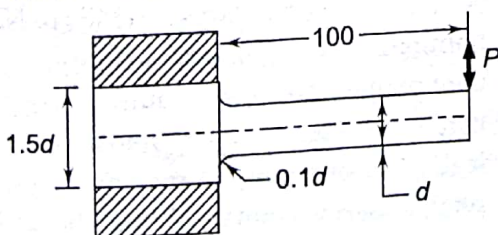

Fig. 5.62
- 5.7 **M** A cantilever beam made of steel Fe 540 ($S_{ut} = 540 \text{ N/mm}^2$ and $S_{yt} = 320 \text{ N/mm}^2$) and subjected to a completely reversed load (P) of 5 kN is shown in Fig. 5.62. The beam is machined and the reliability is 50%. The factor of safety is 2 and the notch sensitivity factor is 0.9. Calculate: